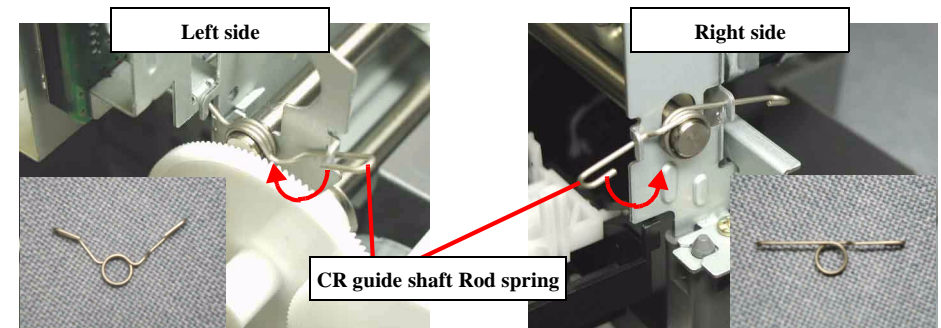

Figure 4-11. CR guide shaft rod spring release
- Make sure that two CR guide shaft rod springs is correctly fixed. (Refer to Figure 4-11)